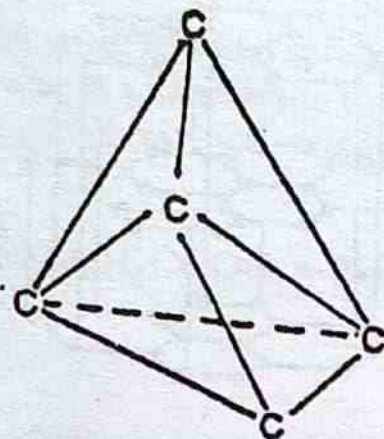

Fig. 4.2
**Structure of Diamond,** In diamond each carbon atom is covalently linked with four other carbon atoms to give basic tetrahedral unit. The tetrahedral unit is shown in figure 4.2.